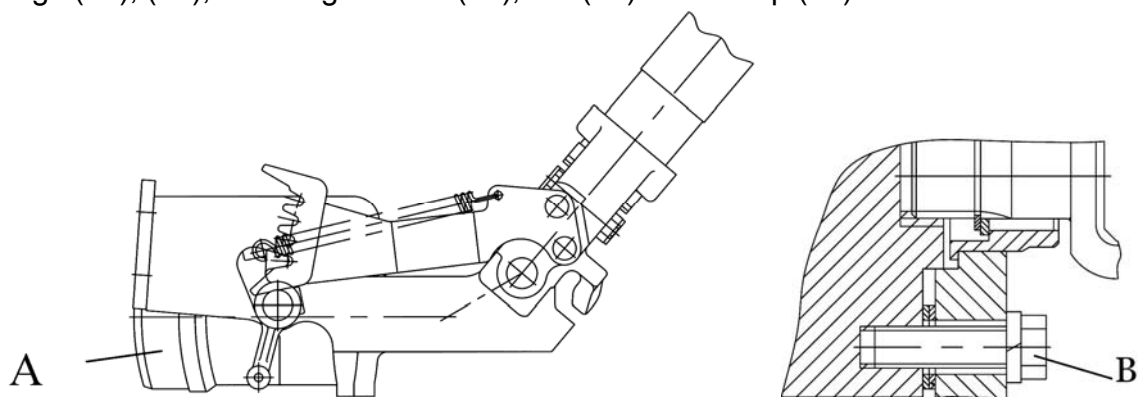

Figure 7.20
- 23) install metering pump «A», (figure 7.20), and fasten it with four bolts «B» (M10x30) with spring washers;